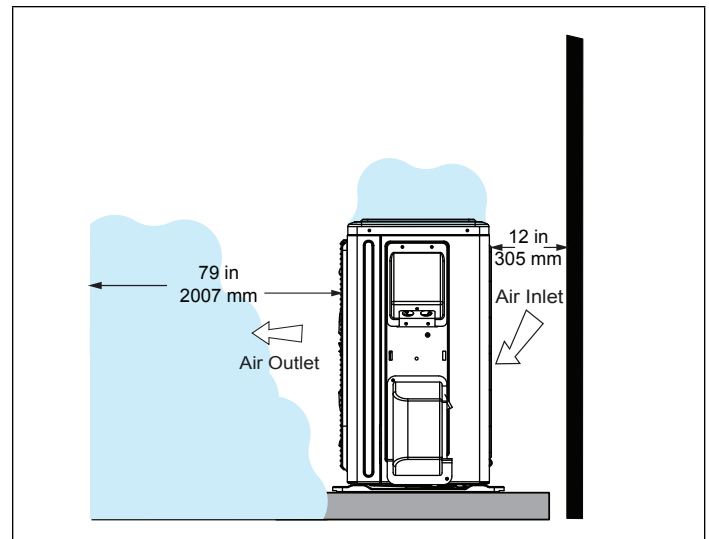

Figure 15. Outdoor Unit Air Flow Obstructed by Snow
- In heavy snow areas, do not place the unit where drifting will occur as illustrated in “Figure 15. Outdoor Unit Air Flow Obstructed by Snow”.